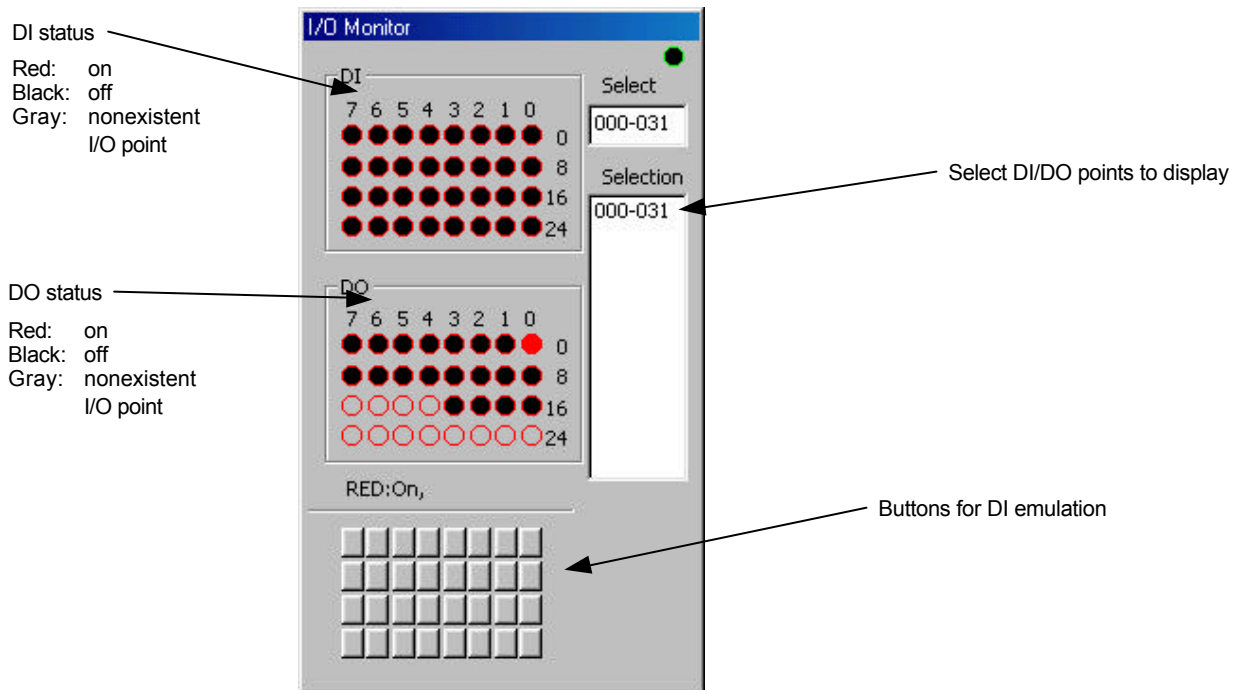

Figure 7.11 “I/O Monitor” dialog box
(2) I/O monitor
In the “Terminal” menu, click “I/O Monitor (I)” under “Monitor” to display the “I/O Monitor” dialog box (see Figure 7.11).